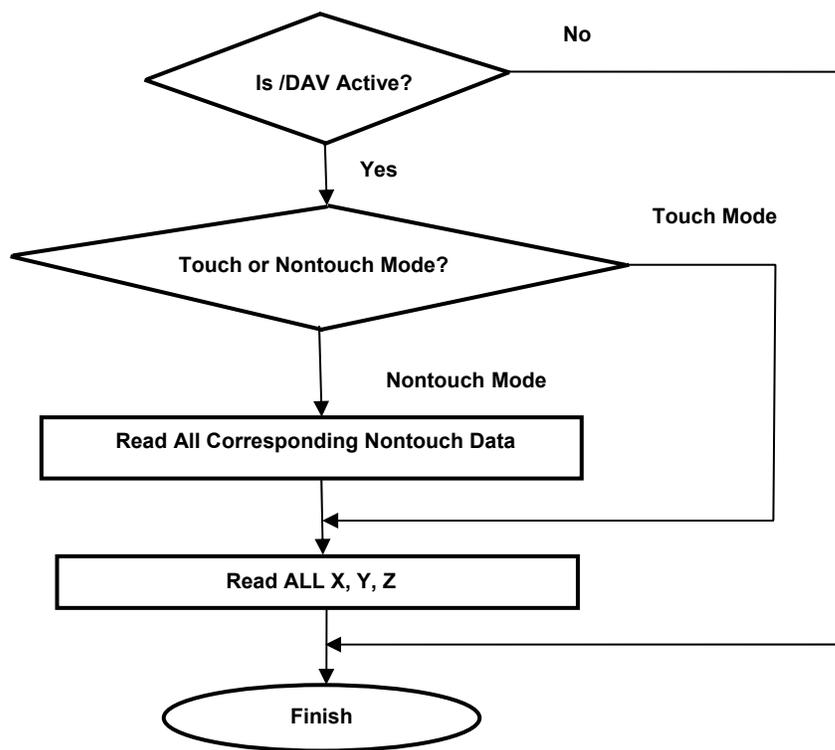

Figure 2. TSC Data Reading Sequence
Figure 2 shows the data reading sequence. The touch or nontouch mode is defined and selected by bit 10 to bit 13 of the {ADC} register. To convert to X, Y, and Z is called the touch mode, and to convert to BAT1, BAT2, AUX1, AUX2, and temperature is called the nontouch mode.
3. Read back the BAT1 data when /DAV low. See Figure 2